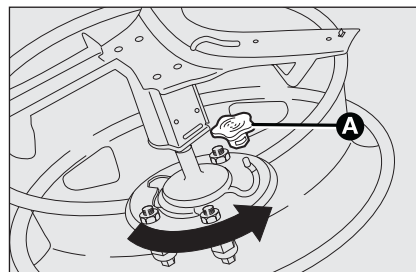

fig. 12
- ☐ Fasten the toothed support on the drilled wheel by means of the 2 screws (insert the support from outside the wheel). Rehook the metallic retaining cable in the specific seat and reinsert the protection cap **A-fig. 12**.